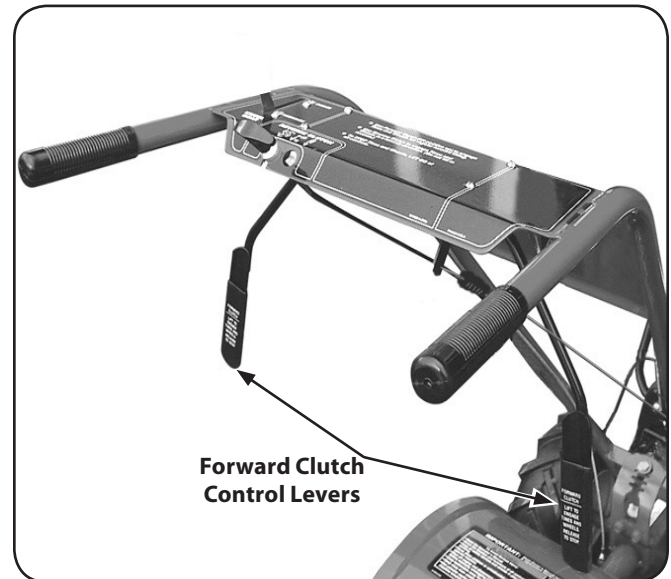

Figure 3-6
1. Remove any fasteners (rubber bands, tape, etc.) that may secure the Forward Clutch Control levers to the handlebar. See Fig. 3-6.